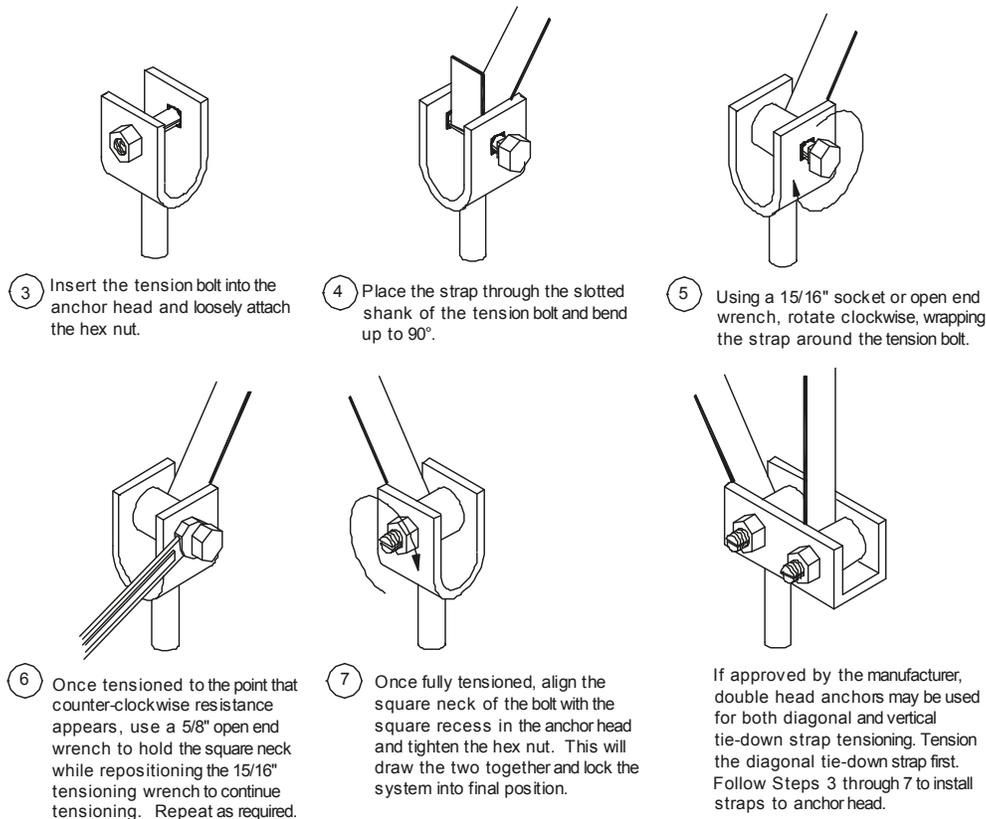

Figure 78. Procedure for connecting the strap to frame and anchor
- 2. Connect strap to anchor.** Connect the other end of the strap to the split bolt in the anchor. Leave enough strap length to be able to make at least three, but no more than five complete turns around the bolt before it becomes tight (approximately 2 1/2 inches per turn or 7 1/2 to 13 inches total). Fewer than three turns and the strap may not hold onto the bolt when force is applied. Conversely, more than five turns may not fit within the U-channel of the anchor head. Follow the procedure outlined in **Figure 78**.